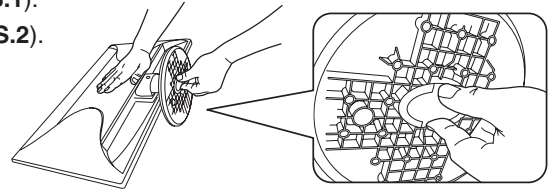

Figure S.1
3. Remove base stand. Move up tabs and take off the base stand (Figure S.1).
3. Move up tabs and take off the base stand (Figure S.1). The monitor can now be mounted using an alternate method. Reverse process to reattach stand.